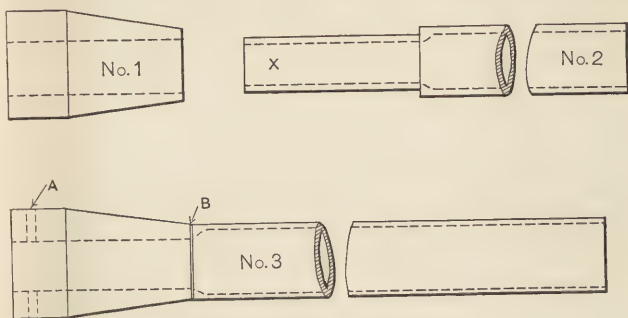

Fig. 3. Pieces to be Brazed.
**Directions for Brazing.**—Fig. 3 shows a piece of steel tubing and a machine steel piece to be brazed together. The hole in No. 1 should be  $\frac{1}{64}$ -inch larger than the swaged end X of No. 2. It should be placed